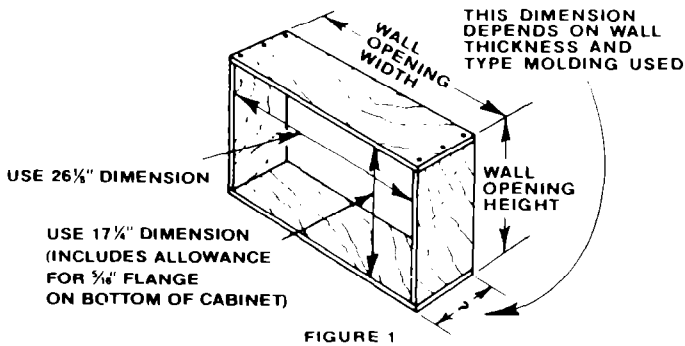

FIGURE 1
- B. Provide an opening through the wall for a finish frame. Observe all local governing codes and ordinances. For wall opening dimensions, use those shown in Figure 1 and add wood frame thickness (use 1" lumber or heavier). When you decide finish frame thickness, be sure you do not cover side cabinet louvers. A 4" space between louvers on cabinet sides and adjoining wall will allow proper air-flow into air conditioner.